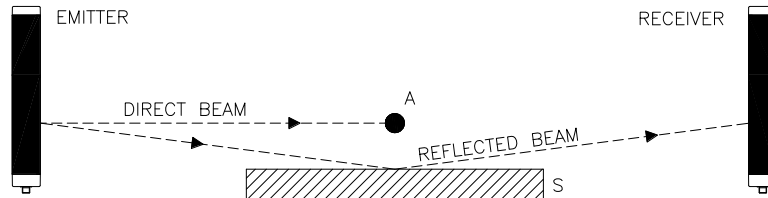

Figure 8 - Reflective surfaces
**⚠** The presence of reflective surfaces close to the light curtain may cause occasional reflections that prevent sensing. Referring to Figure 8, object A is not detected due to surface S that, reflecting the beam, closes the optical path between the Emitter and Receiver. Therefore, a minimum distance  $d$  must be maintained between any reflecting surfaces and the guarded area. We recommend calculating the minimum distance  $d$  using the values for Type 2 devices as set forth in IEC/EN 61496-2.